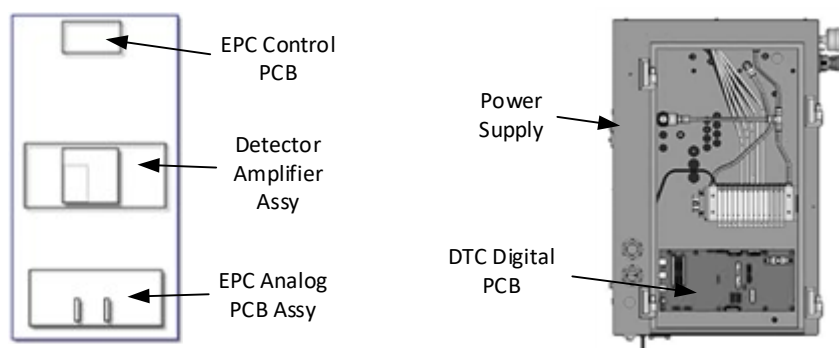

Fig. 8.6. Left Side Components
8.3.1 Left side components (see Figure 8.6)